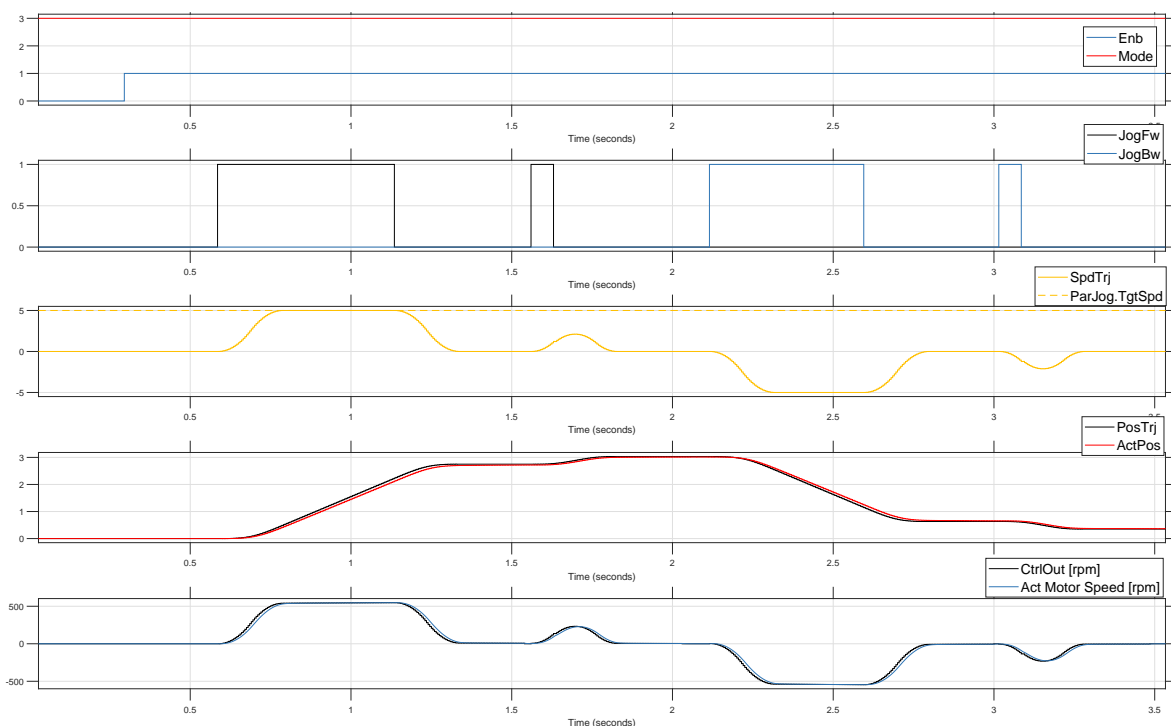

Figure 10: *Mode* = 3: Behaviour of in Jog Mode with Push Buttons.
This input specifies maximum allowable speed of the linear axis during the movement in jogging operations in mode 3 and 4 (See *Mode* description and figure 10 and 11). It is measured in the same unit as Actual Position per second.
- *Mode* = 3: When the *Mode* input is set to 3, the function operates in Jog Mode using two push buttons, *JogFw* and *JogBw*. If *JogFw* is activated, the linear axis moves forward at the speed defined by *TgtSpd* of the **ParJog** structure, along with the configured acceleration and jerk parameters. If *JogBw* is activated, the axis moves backward. Once the push buttons are released, the axis decelerates to a stop, using the defined acceleration and jerk settings, ensuring smooth and controlled movement. See figure 10.
In *Mode 3*, the *JogFw* input controls the forward movement of the linear axis. As long as this input is active True, the axis moves forward according to the parameters defined in **ParJog**. When the *JogFw* input is released the function stops the linear axis using the same parameters, ensuring a smooth and controlled stop. This input is essential for manual jogging operations, allowing the user to control forward movement with precision. See figure 10.
The *JogBw* input controls the backward movement of the linear axis in *Mode 3*. When this input is active True, the axis moves backward according to the parameters defined in **ParJog**. If the *JogBw* input is released, the function stops the linear axis using the same parameters, ensuring a smooth and controlled stop. This input is crucial for manual jogging operations, providing precise control over backward movement. See figure 10.